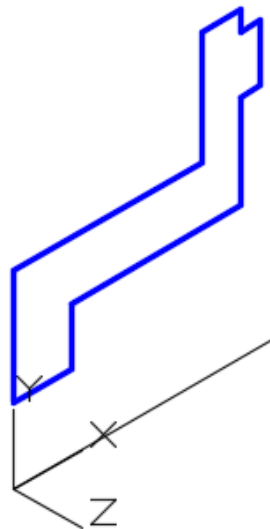

Figure Step 6
Step 6 On layer: Construction, from 0,0,0 draw a line, of any length, along the X axis. Use ortho mode to draw it quicker. This will be the axis for the revolution and is the center line of the solid. (Figure Step 6)